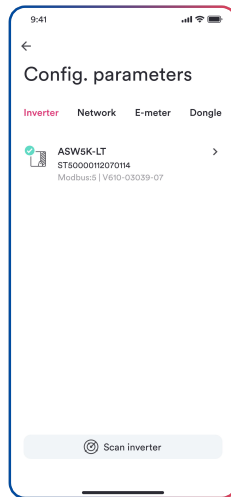

Figure 8. Inverter list
1. As shown in Figure 8, This page provides a list of monitored inverters. If there are multiple inverters to be monitored, click "Scan inverter" and wait for 5 minutes.